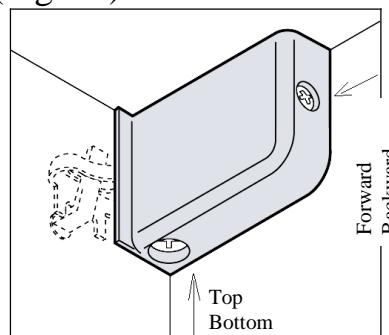

Fig. 17
5. The upper cabinets are suspended on the mounting rail by means of adjusted brackets installed on them. The brackets provide adjustment of the cabinet height and depth with use of corresponding screws (Fig. 17).
If the gap between the wall cabinets and ceiling does not allow to fix the cornice with screws on top, perform the fixation inside the cabinets (Fig. 17). To do this, drill holes $\varnothing 5$ mm in the upper horizontals of the cabinets.